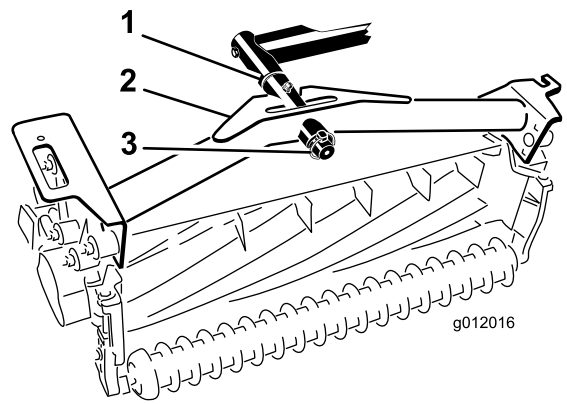

Figure 19
2. Slide the cutting unit carrier frame onto the pivot rod and secure it with a lynch pin (Figure 19).